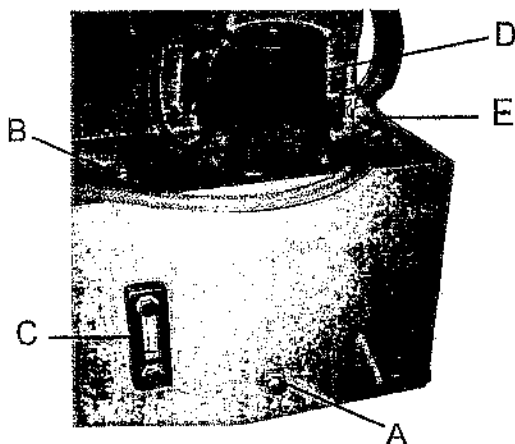

Fig. 28
2. Remove the drain plug (A - Fig. 28) with a hex wrench, and allow coolant to drain completely,
3. Remove the hex cap bolt (B - Fig. 28),
and move the pump unit (D - Fig. 28) away.
5. Replace the drain plug (A - Fig. 28).
6. Add coolant to the highest level of the coolant meter (C - Fig. 28).
7. Replace the pump unit (D - Fig. 28), and fasten the bolt (B - Fig. 28).